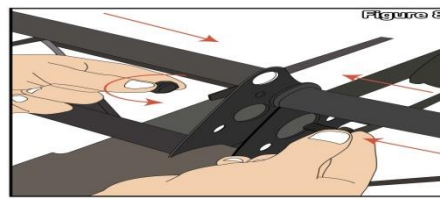
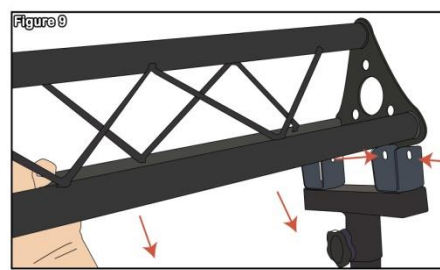

Figure 8
Figure 9
**Step 5** – Take the trusses and connect each with the bolts provided as shown in **Figure 8**. Once the trusses are connected and securely fastened slide each end on the T-adapters of the stand (See **Figure 9**).